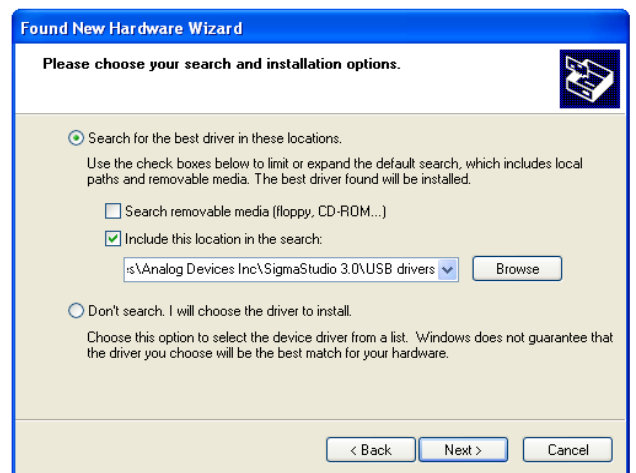

Figure 7. **Found New Hardware Wizard**—Search and Installation Options
2. Select **Search for the best driver in these locations**, select **Include this location in the search**, and click **Browse** to find the USB drivers subdirectory within the **SigmaStudio** directory (see Figure 7).